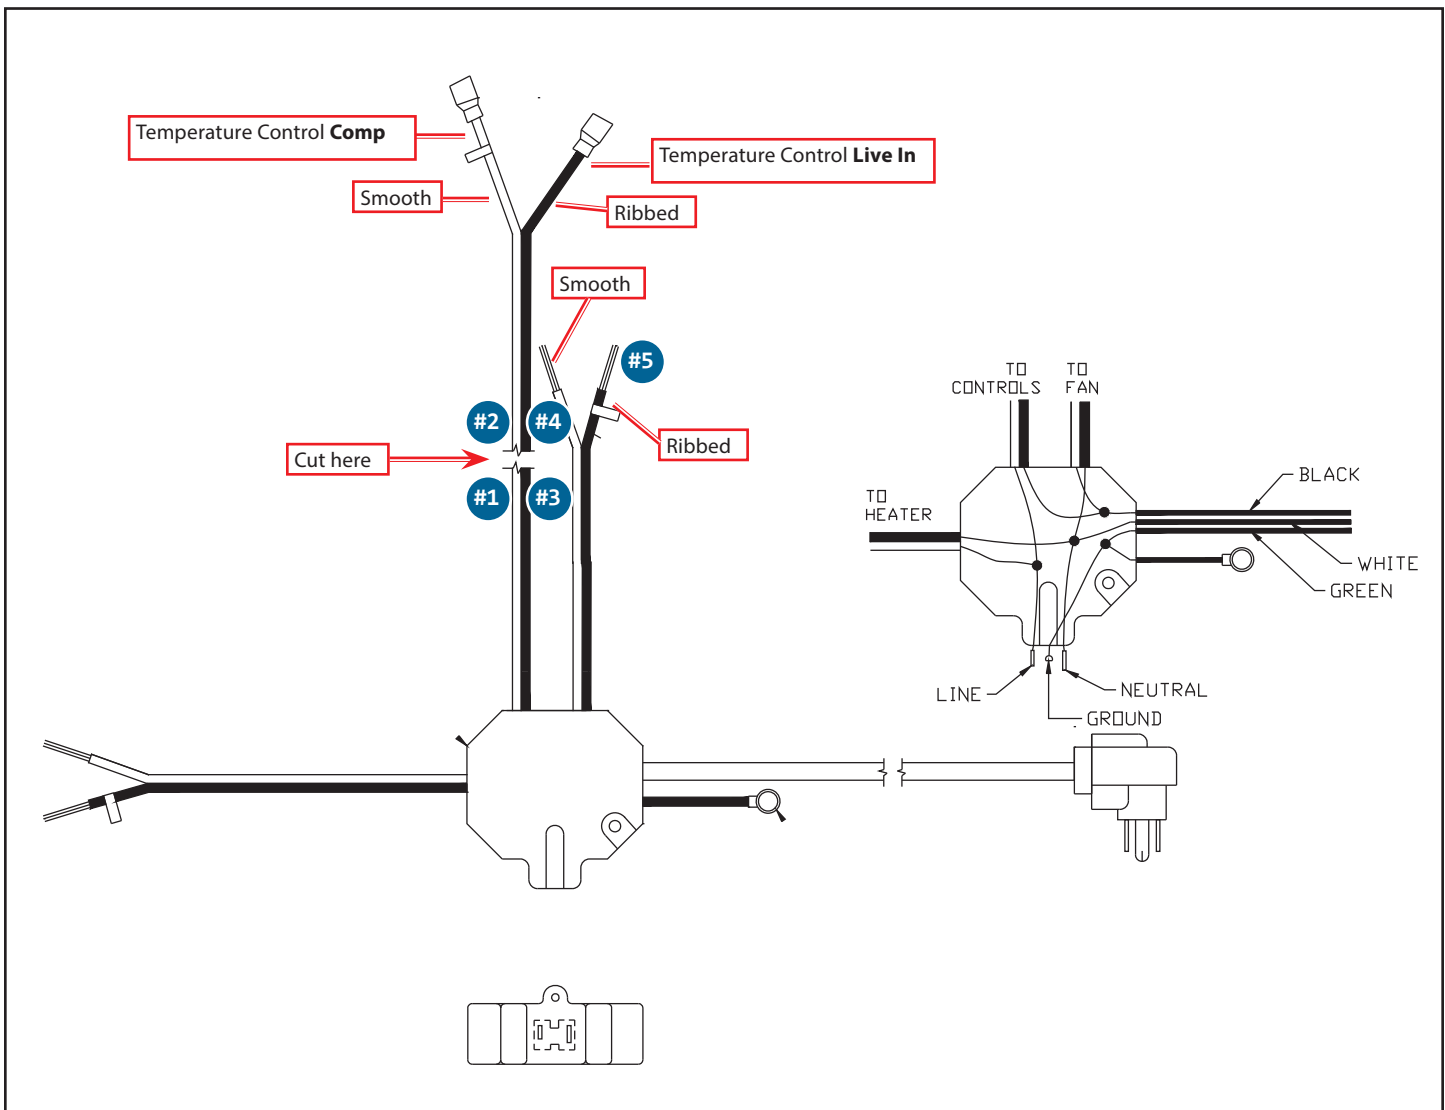

Fig. 5. White 6-wire terminal block diagram.
2. Cut the terminal block wires going to the temperature control. See fig. 5, "Cut here".
3. With the provided lever connectors, connect the relay wires to the terminal block wires as follows (see fig. 5):